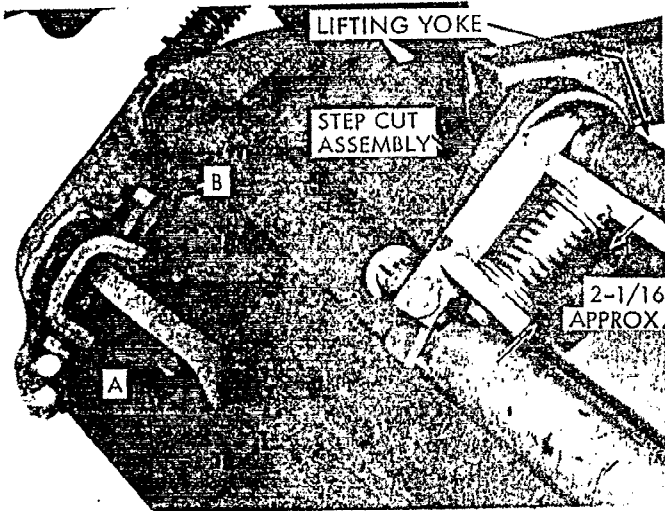

Figure 9.
- B. Loosen the lower bedknife adjusting screws (A Fig. 9) approximately 1/4 turn each (turn clockwise).
- C. Rotate the reel by hand while tightening the upper (B Fig. 9) adjusting screws evenly (turn clockwise) until the bedknife comes into slight contact with the reel blades and tighten the lower screws securely. It may be necessary to alternate between loosening lower and tightening upper screws.
STEP CUT ASSEMBLY (See Fig. 9)